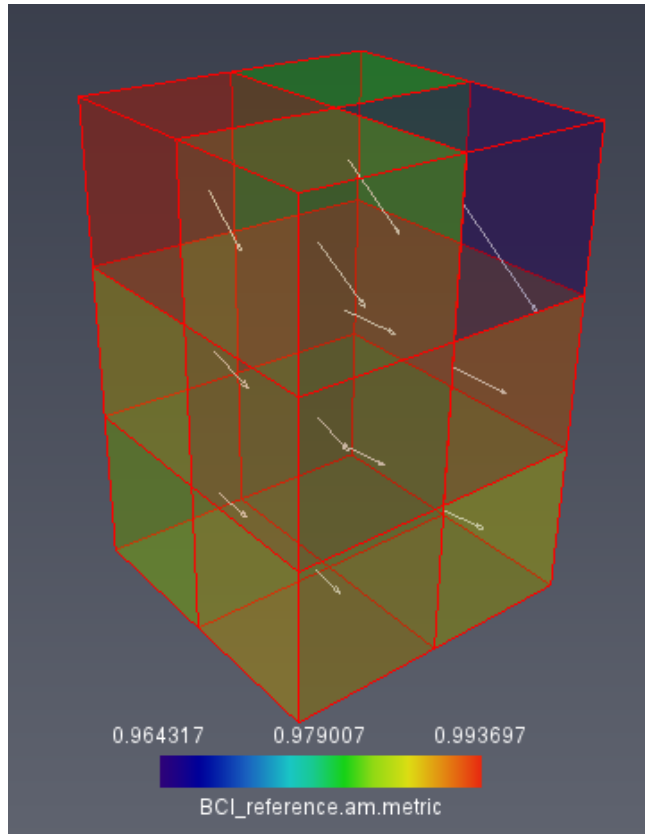

Figure 21.9: Metric Map and Displacement Vectors
- Visualize the displacement vectors by attaching a *Vector Field* module to *BCI_reference.disp*. Set the *Scale* port to 25 (open more options on *Scale* port line, and change *Max value* setting to 25), *Coloring* port to *Uniform* and select the white color from the port *Uniform color* (see Figure 21.9).